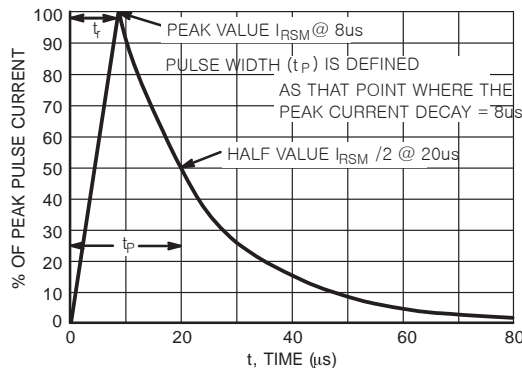

Figure 5. 8 X 20µs Pulse Waveform
- Surge current waveform per Figure 5.